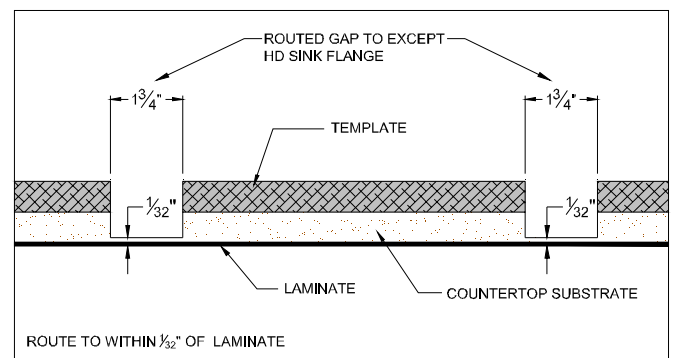

Figure 5C
- Index a 3¹/₄ HP or 2¹/₂ HP plunge router with a 1¹/₈" x 1" top bearing flush trim router bit to remove the substrate. (FIG. 5C)